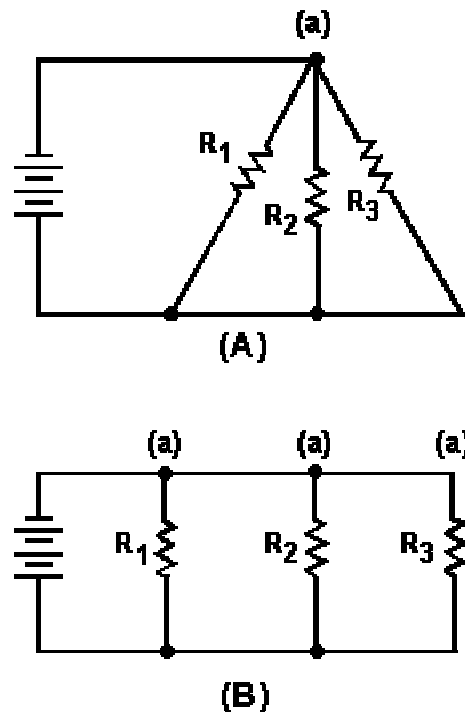

Figure 3-64.—Simple voltage divider.
Figure 3-64 is used to illustrate the development of a simple voltage divider. The requirement for this voltage divider is to provide a voltage of 25 volts and a current of 910 milliamps to the load from a source voltage of 100 volts. Figure 3-64(A) provides a circuit in which 25 volts is available at point B. If the load was connected between point B and ground, you might think that the load would be supplied with 25 volts. This is not true since the load connected between point B and ground forms a parallel network of the load and resistor  $R_1$ . (Remember that the value of resistance of a parallel network is always less than the value of the smallest resistor in the network.)
The voltage divider circuit can now be drawn as shown in figure 3-64(B).